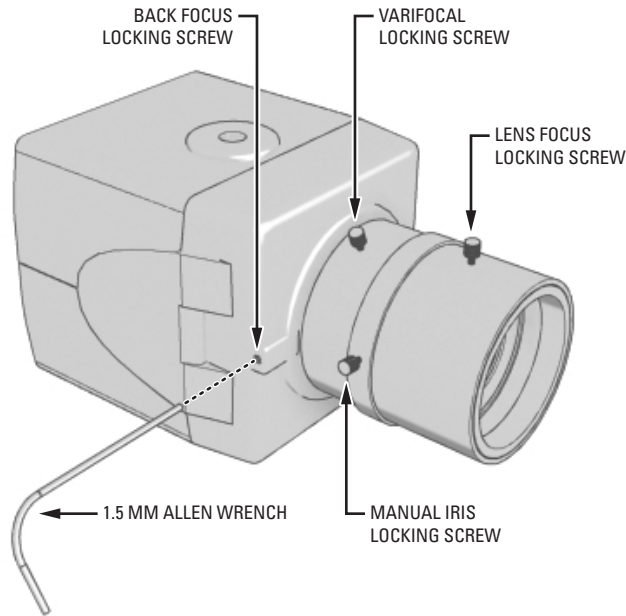

Figure 7. Lens Focus
1. **Auto iris only:** Cover the auto iris lens with a suitable neutral density (ND) filter; this opens the iris fully. For best results, use an ND3 filter.
2. **Manual iris only:** Open the iris completely. Figure 7 shows the manual iris, varifocal, and lens focus locking screws for a sample lens. Refer to your lens documentation for more information.